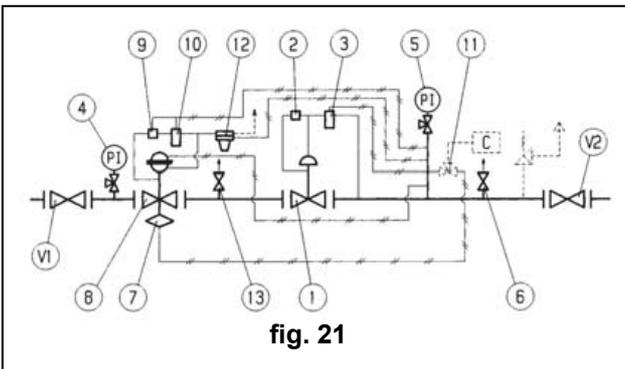

fig. 21
5.5 COMMISSIONING THE REGULATOR APERFLUX 101 WITH REFLUX 819 IN LINE MONITOR WITH INCORP. SB/82 SLUM-SHUT AND ACCELERATING VALVE (fig.21)